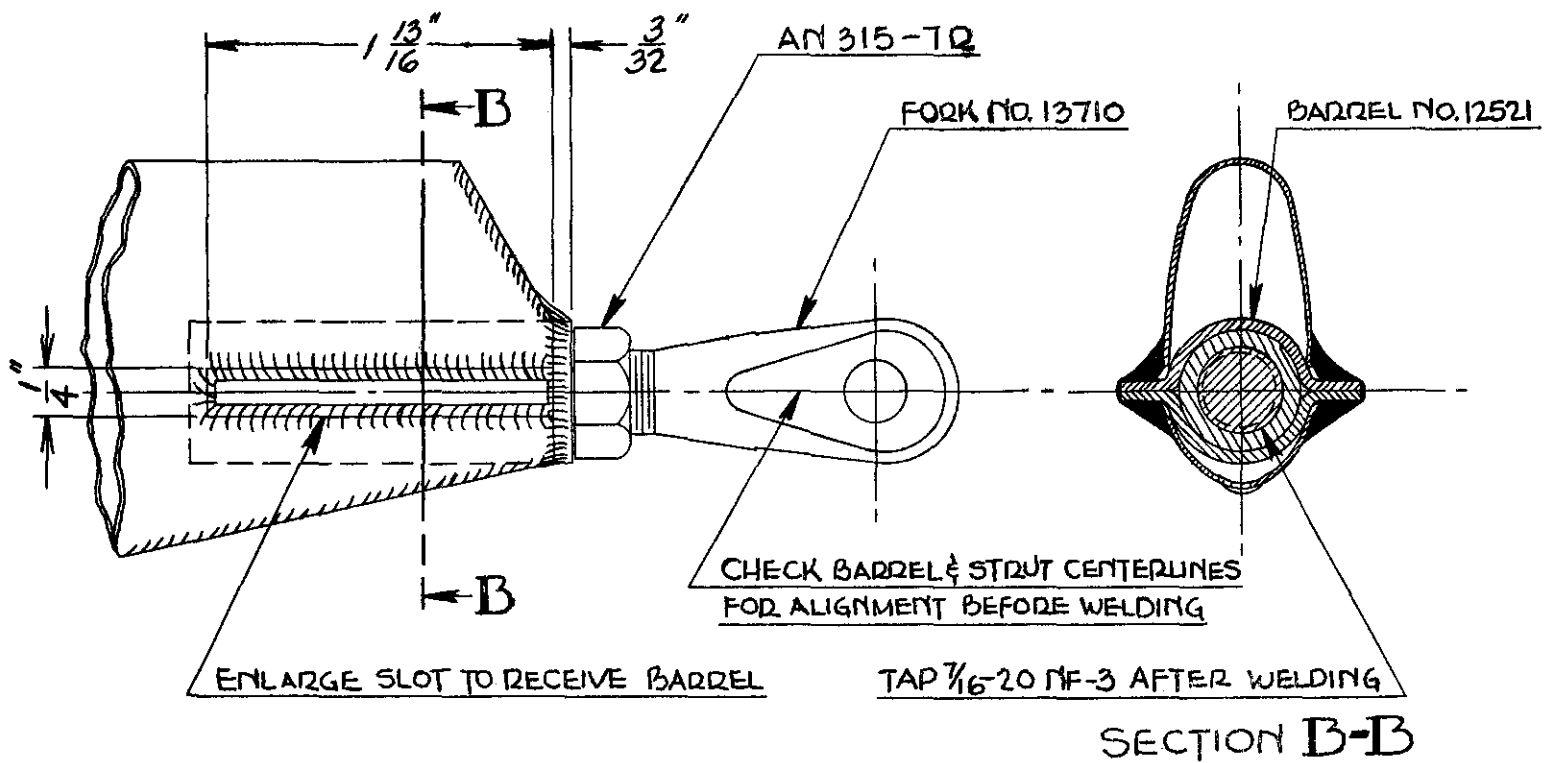

FIG. 2
5. Insert the new barrel, part number 12521. (It will be necessary to lengthen the slots on the side of the strut sufficiently so that when the new barrel is inserted the end of the barrel flange will extend $3/32$ " from the end of the lift strut tube.) (See Figure 2)